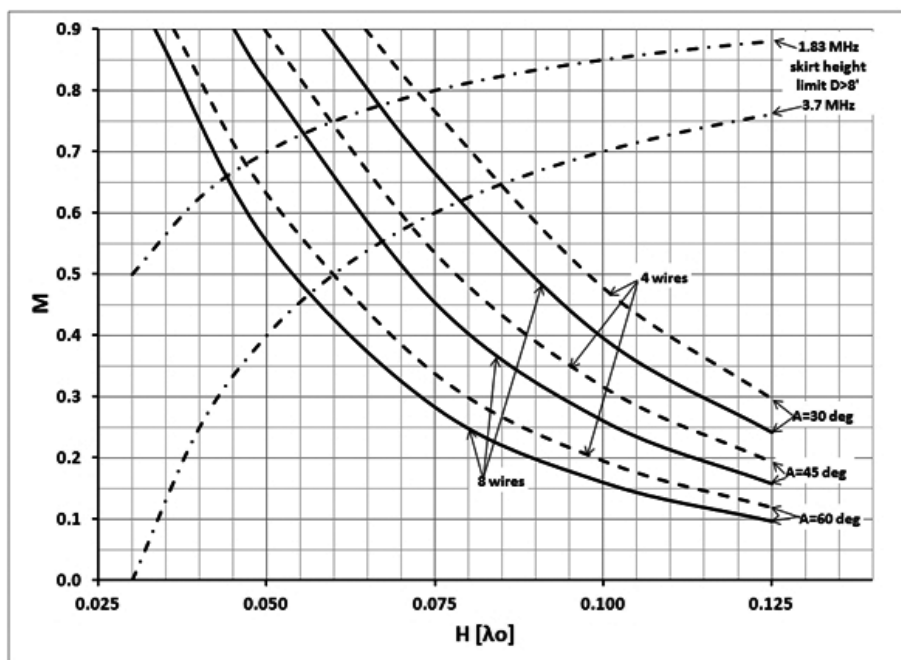

Figure 10 — Values of M for resonance when using 4 or 8 umbrella wires and a skirt.
Figure 10 shows the relationship between H and M for resonance for skirted umbrellas with 4 and 8 wires, for three apex angles (A).
on H , A and the number of umbrella wires, but as Figure 10 shows we can do pretty well for antennas down to $H \approx 0.04\lambda_0$ or a bit shorter on 160 meters if we use a large value for A and more wires in the umbrella. At 1.83 MHz, $0.04\lambda_0 = 21.5$ feet, which is definitely a “short” vertical. Figure 10 shows that increasing the number of wires in the hat increases its effectiveness, but the point of vanishing returns sets in quickly. The
There is an important limitation on M , especially for small values of H : the distance above ground of the lower edge of the umbrella. Because there can be very high potentials on the skirt you must keep the skirt out of reach, at least 8 feet above ground so you can’t touch it. This limitation is indicated in Figure 10 by the dash-dot lines. There is one set of limits for 1.83 MHz and a second for 3.7 MHz. You are limited to values of M below these boundary lines.